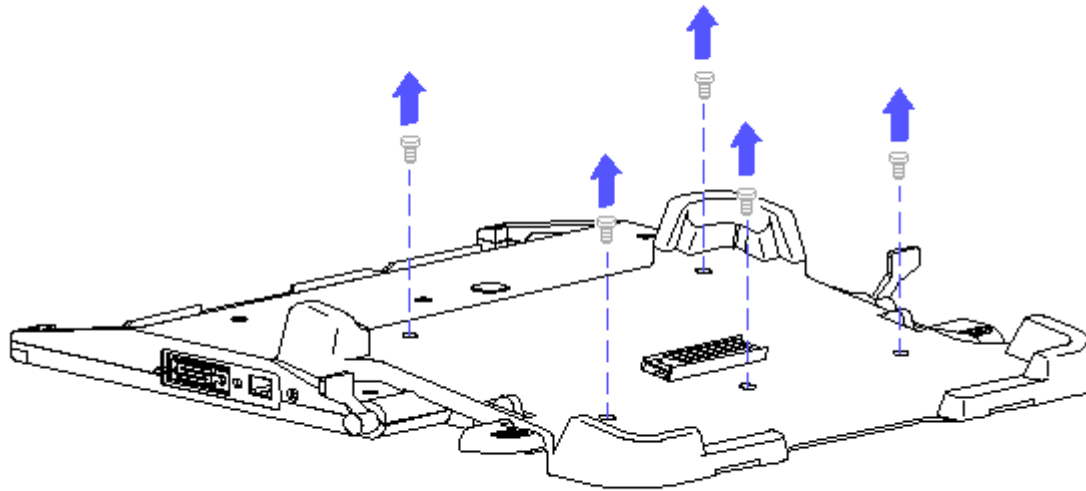

Figure 4-4. Front Cover Removal and Replacement
2. Remove the five screws holding the front cover in place and remove the front cover (Figure 4-4).